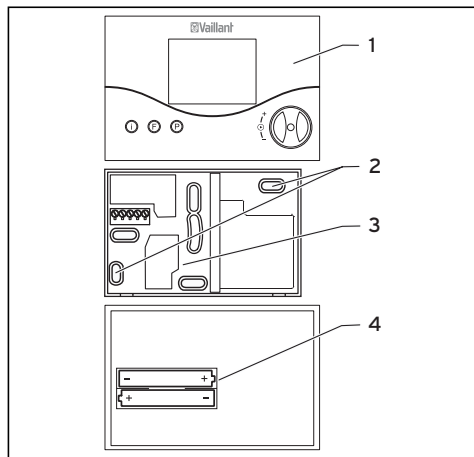

Fig. 9.2 Mounting the room temperature thermostat
- Drill two holes **(2)** of 6 mm diameter (as shown in fig. 9.2) and put in the supplied wall plugs.
- Insert the batteries supplied into the battery compartment at the back of the regulator (Fig. 9.2, Item 4). Make sure that the polarity of the batteries is correct.